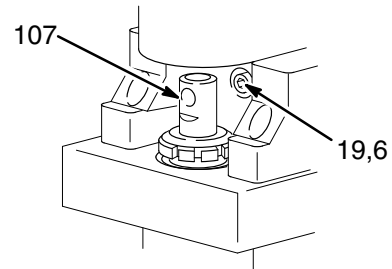
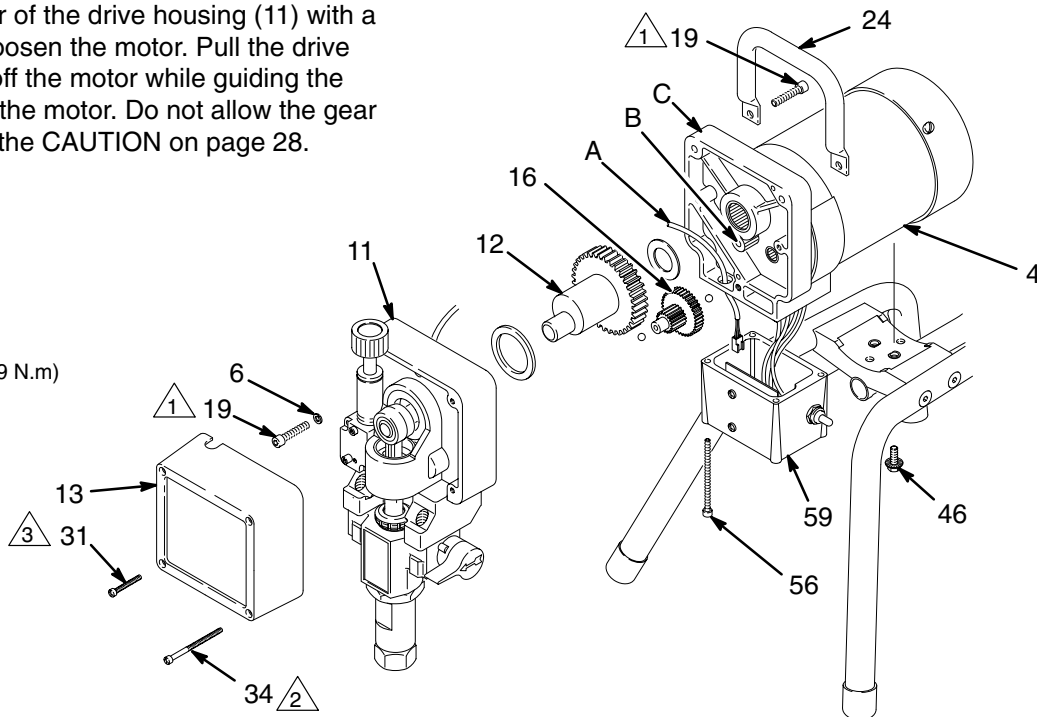
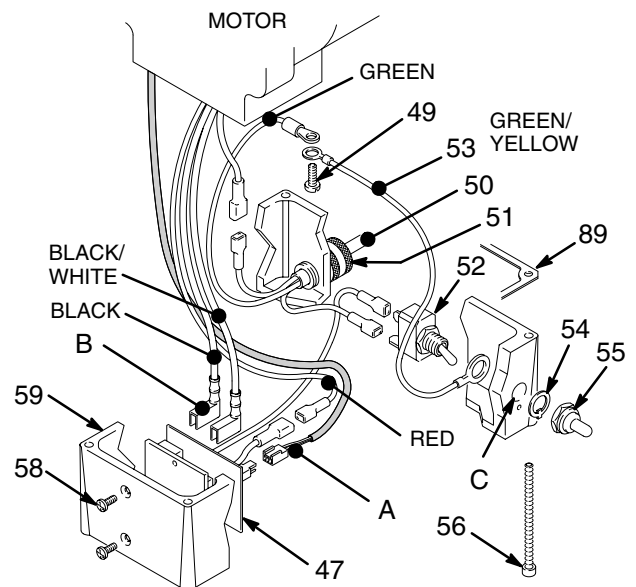

Fig. 25
Fig. 26
Fig. 27
NOTE: See Fig. 26 except where noted.
3. Remove the screws (56) and lower the junction box (59). Disconnect the motor wires and the pressure control wire (A) from the motor start board. Refer to Fig. 27 on page 27.
4. Remove the front cover (13).
5. Turn the displacement pump rod (107) so the pin hole aligns with the bottom drive housing screw (19). See Fig. 25. Remove the three drive housing screws and lockwashers (19,6). Also see Fig. 26.
6. Remove the two motor screws (19) and and remove the sprayer handle (24).
7. Tap the lower rear of the drive housing (11) with a plastic mallet to loosen the motor. Pull the drive housing straight off the motor while guiding the harness (A) from the motor. Do not allow the gear (16) to fall. Read the CAUTION on page 28.
8. Remove the two screws (46) and lift the motor off the base (66).
9. Align the new motor with the base and reinstall the screws (46).
11. Connect the wires in the junction box. Refer to Fig. 27 on page 27. Install the junction box.
12. Connect the piston rod (107) to the drive housing; see page 22, **Installing the Pump**, Step 2 and the **WARNING** following it.
NOTE: See Fig. 27 for this procedure.